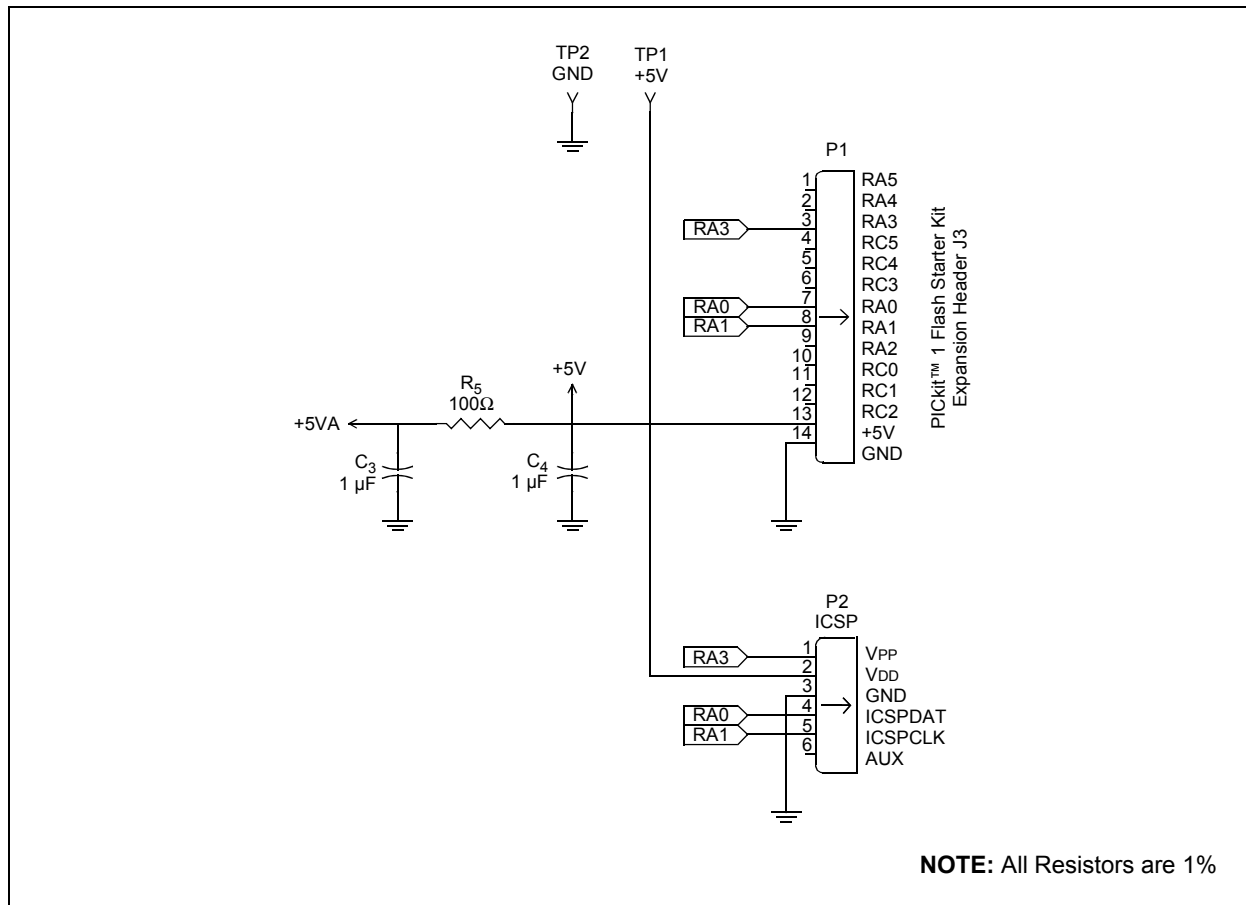
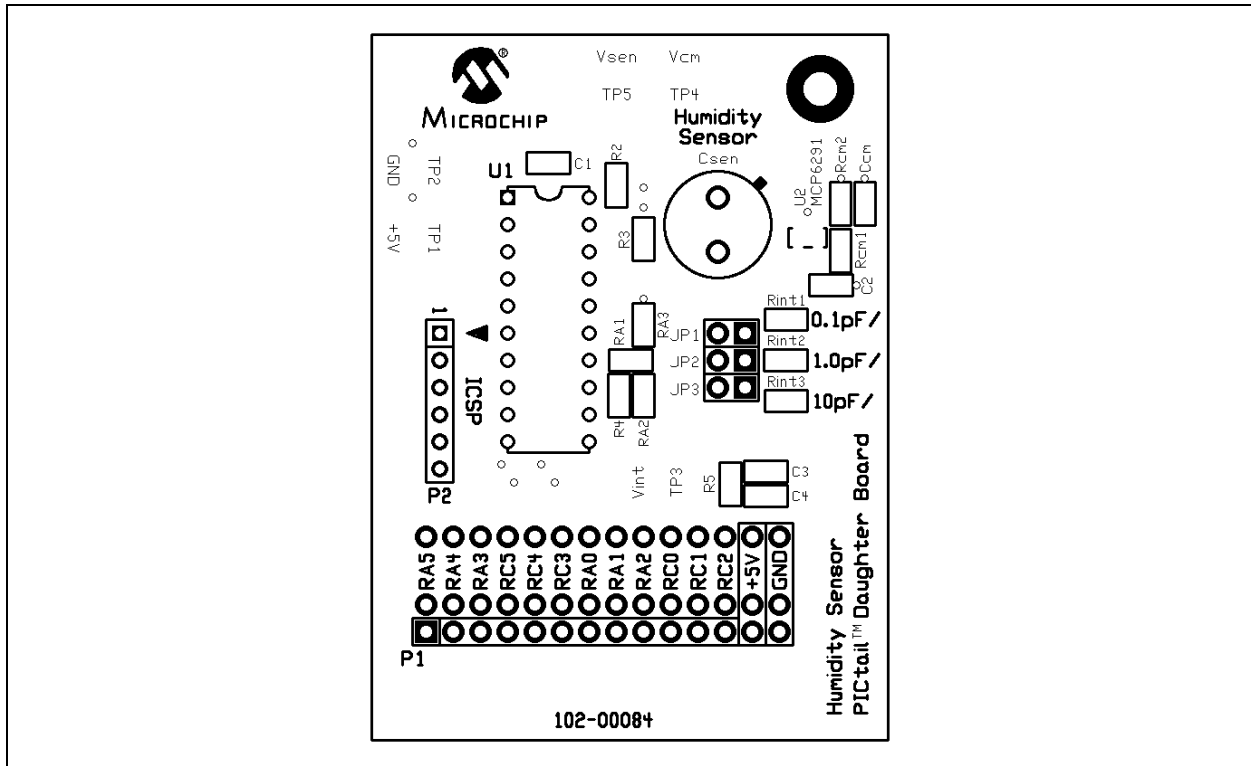
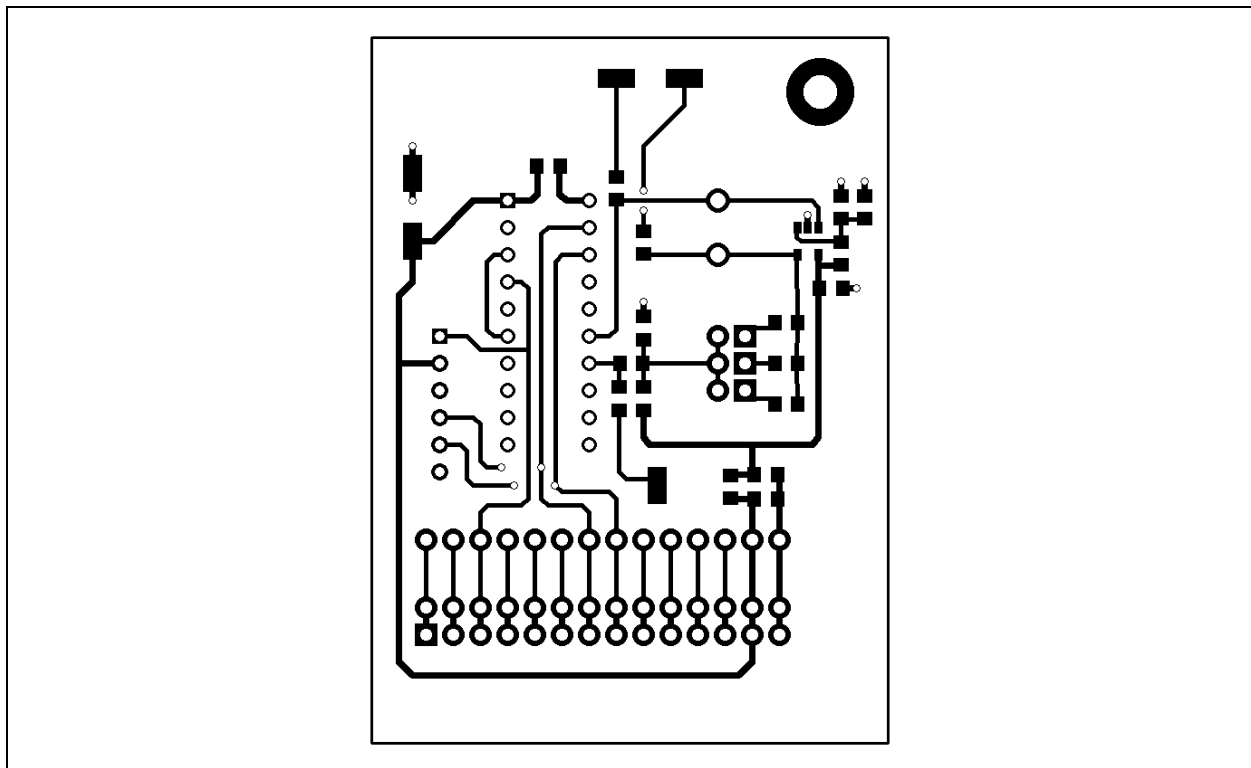
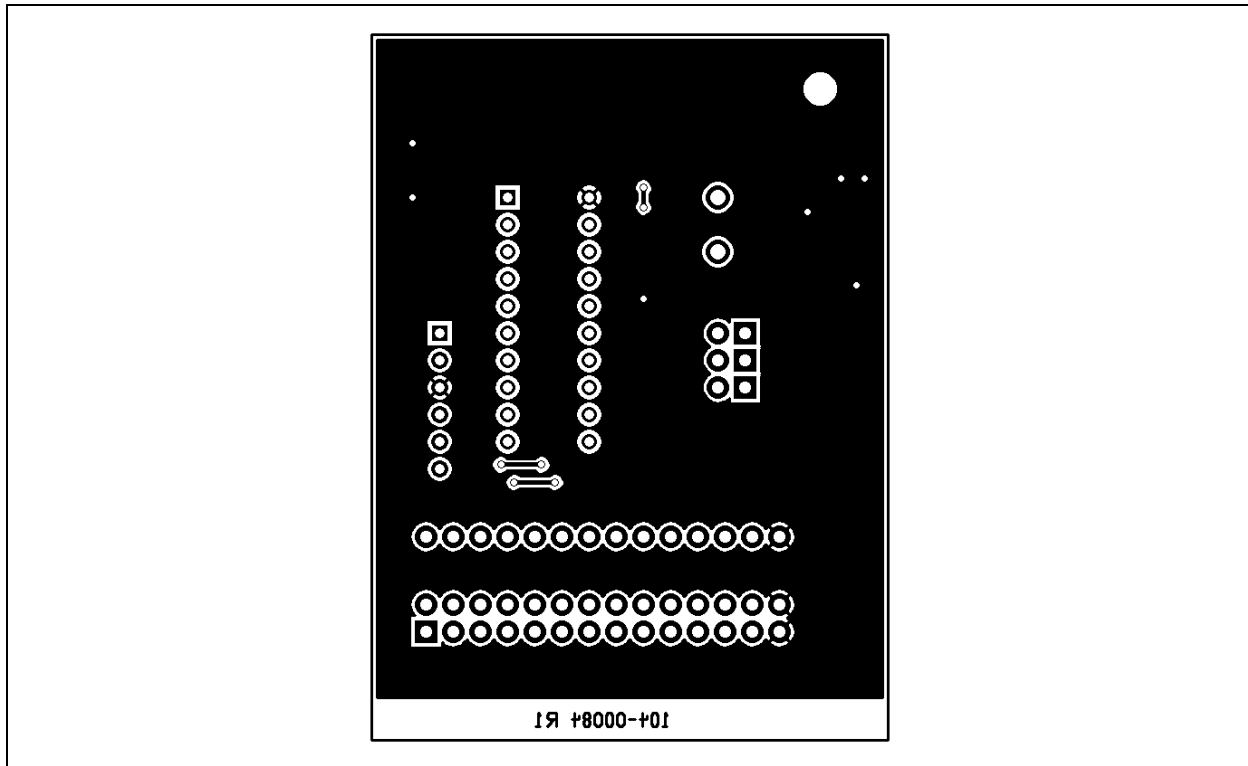

FIGURE A-2: Board – Schematic. (Continued)
FIGURE A-3: Board – Top Silk-Screen.
FIGURE A-4: Board – Top Metal Layer.
FIGURE A-5: Board – Bottom Metal Layer.
A schematic is shown in Figure A-1 and Figure A-2. Csen is the humidity sensor or capacitor. Op amp, U2, and the components, Csen and R_{INT} (Rint1, Rint2 or Rint3), form an inverting (Miller) integrator. The jumpers, JP1 – JP3, select the R_{INT} value of choice (6.65 MΩ, 665 kΩ or 66.5 kΩ), which sets the measurement resolution (0.1 pF / count, 1 pF / count or 10 pF / count). The microcontroller, U1, sends a square wave at its pin 14 to the input of the integrator. The integrator converts it to a triangle wave, which is seen at the microcontroller's pin 15. There is a comparator internal to U1 which compares the voltage at pin 15 to one of two reference levels; V_{RL} = 0.125 V_{DD} or V_{RH} = 0.500 V_{DD}. The microcontroller changes the logic value output at pin 14 each time the triangle wave exceeds one of these two limits.
- a) This is a two-layer board. It has a solid ground plane on the bottom layer to minimize EMC issues, and routes the traces in the top layer. The complete schematic is in Figure A-1 and Figure A-2, the board layer plots in Figure A-3, Figure A-4 and Figure A-5. The Bill of Materials (BOM) is in **Appendix B. “Bill Of Materials (BOM)”**. The Gerber files for this board are available on the Microchip web site (www.microchip.com) and are contained in the zip file 00084R1.zip.